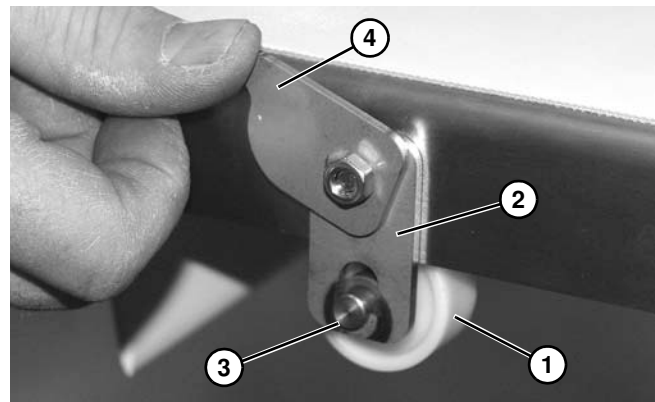

Figure 78
6. Install roller assembly (Figure 78, item 1) onto shaft bracket (Figure 78, item 2) on both sides of conveyor.
7. Make certain notch (Figure 78, item 3) in shaft is inserted into shaft bracket (Figure 78, item 2), and lower clip bracket (Figure 78, item 4) over shaft and shaft bracket.